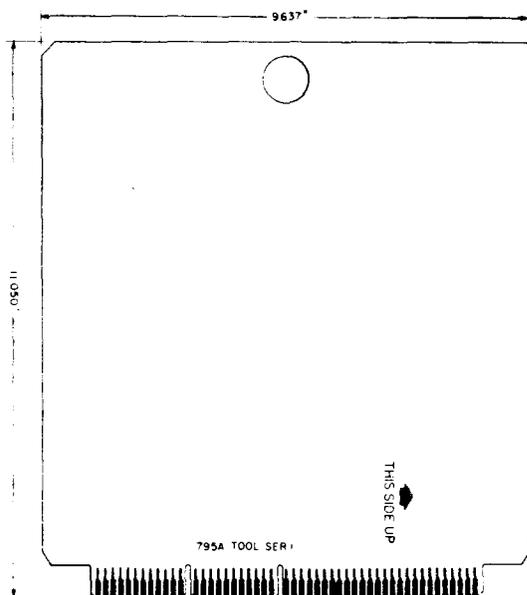

Fig. 5—795A Multiplex Tester Tool
**2.11 795A:** The 795A multiplex tester tool (Fig. 5) is used on the M1-2A multiplex. This tool is designed to mate with a 931 connector and will prevent alarm conditions while maintenance is being performed.